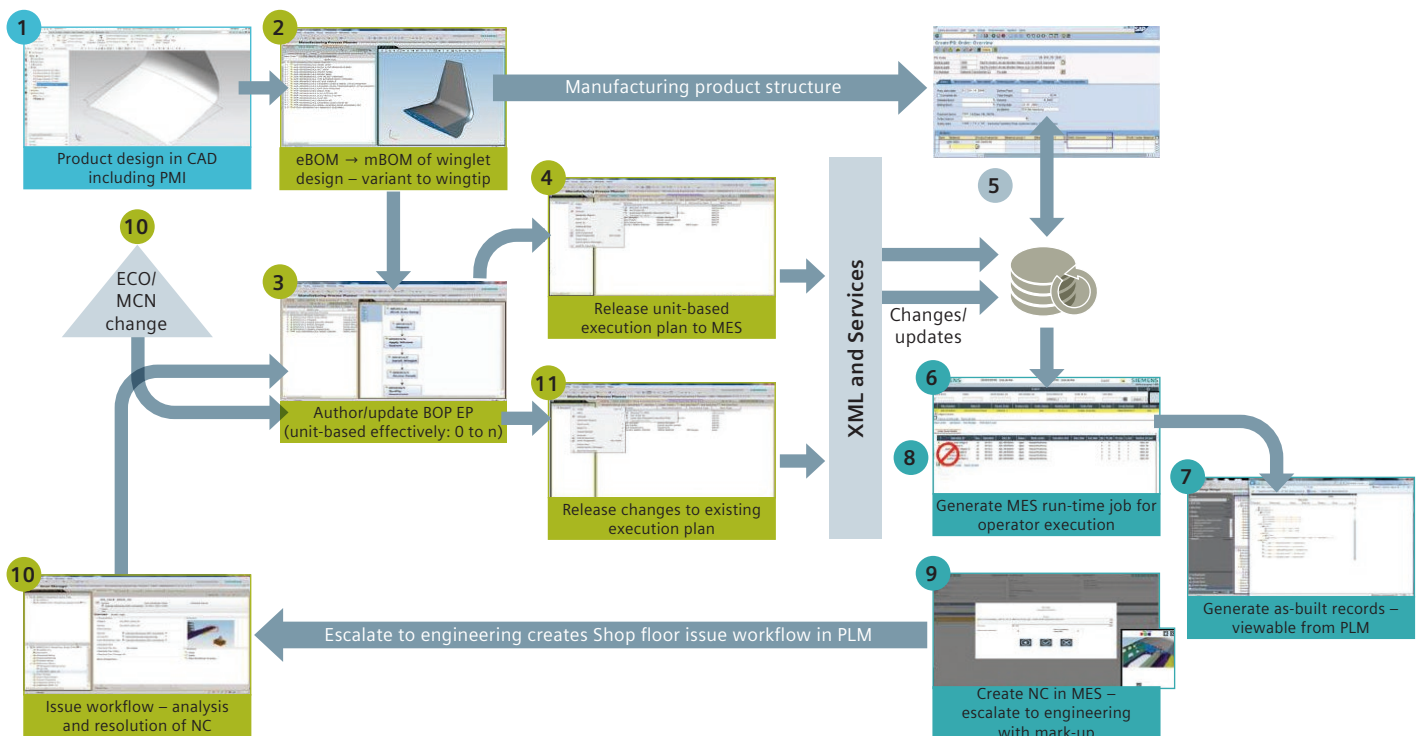

Figure 2.2: Closed-loop integration of PLM with MOM.
- Many data exchange and enterprise integrations involve feedback loops among these systems. A good example is the ability to record nonconformity in MES and use this to track engineering issues in PLM (as illustrated in step 9, Figure 2.2). Accordingly, when starting your Digital Enterprise journey we recommend planning for these feedback loops since they enable you to provide products with superior quality and operational performance